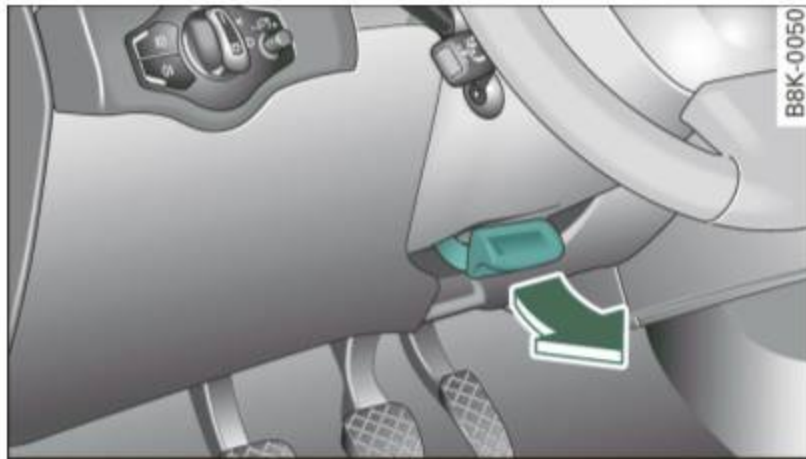

Fig. 106 Lever under the steering column
- Pull the lever ⇒ fig. 106 -Arrow- ⇒ .